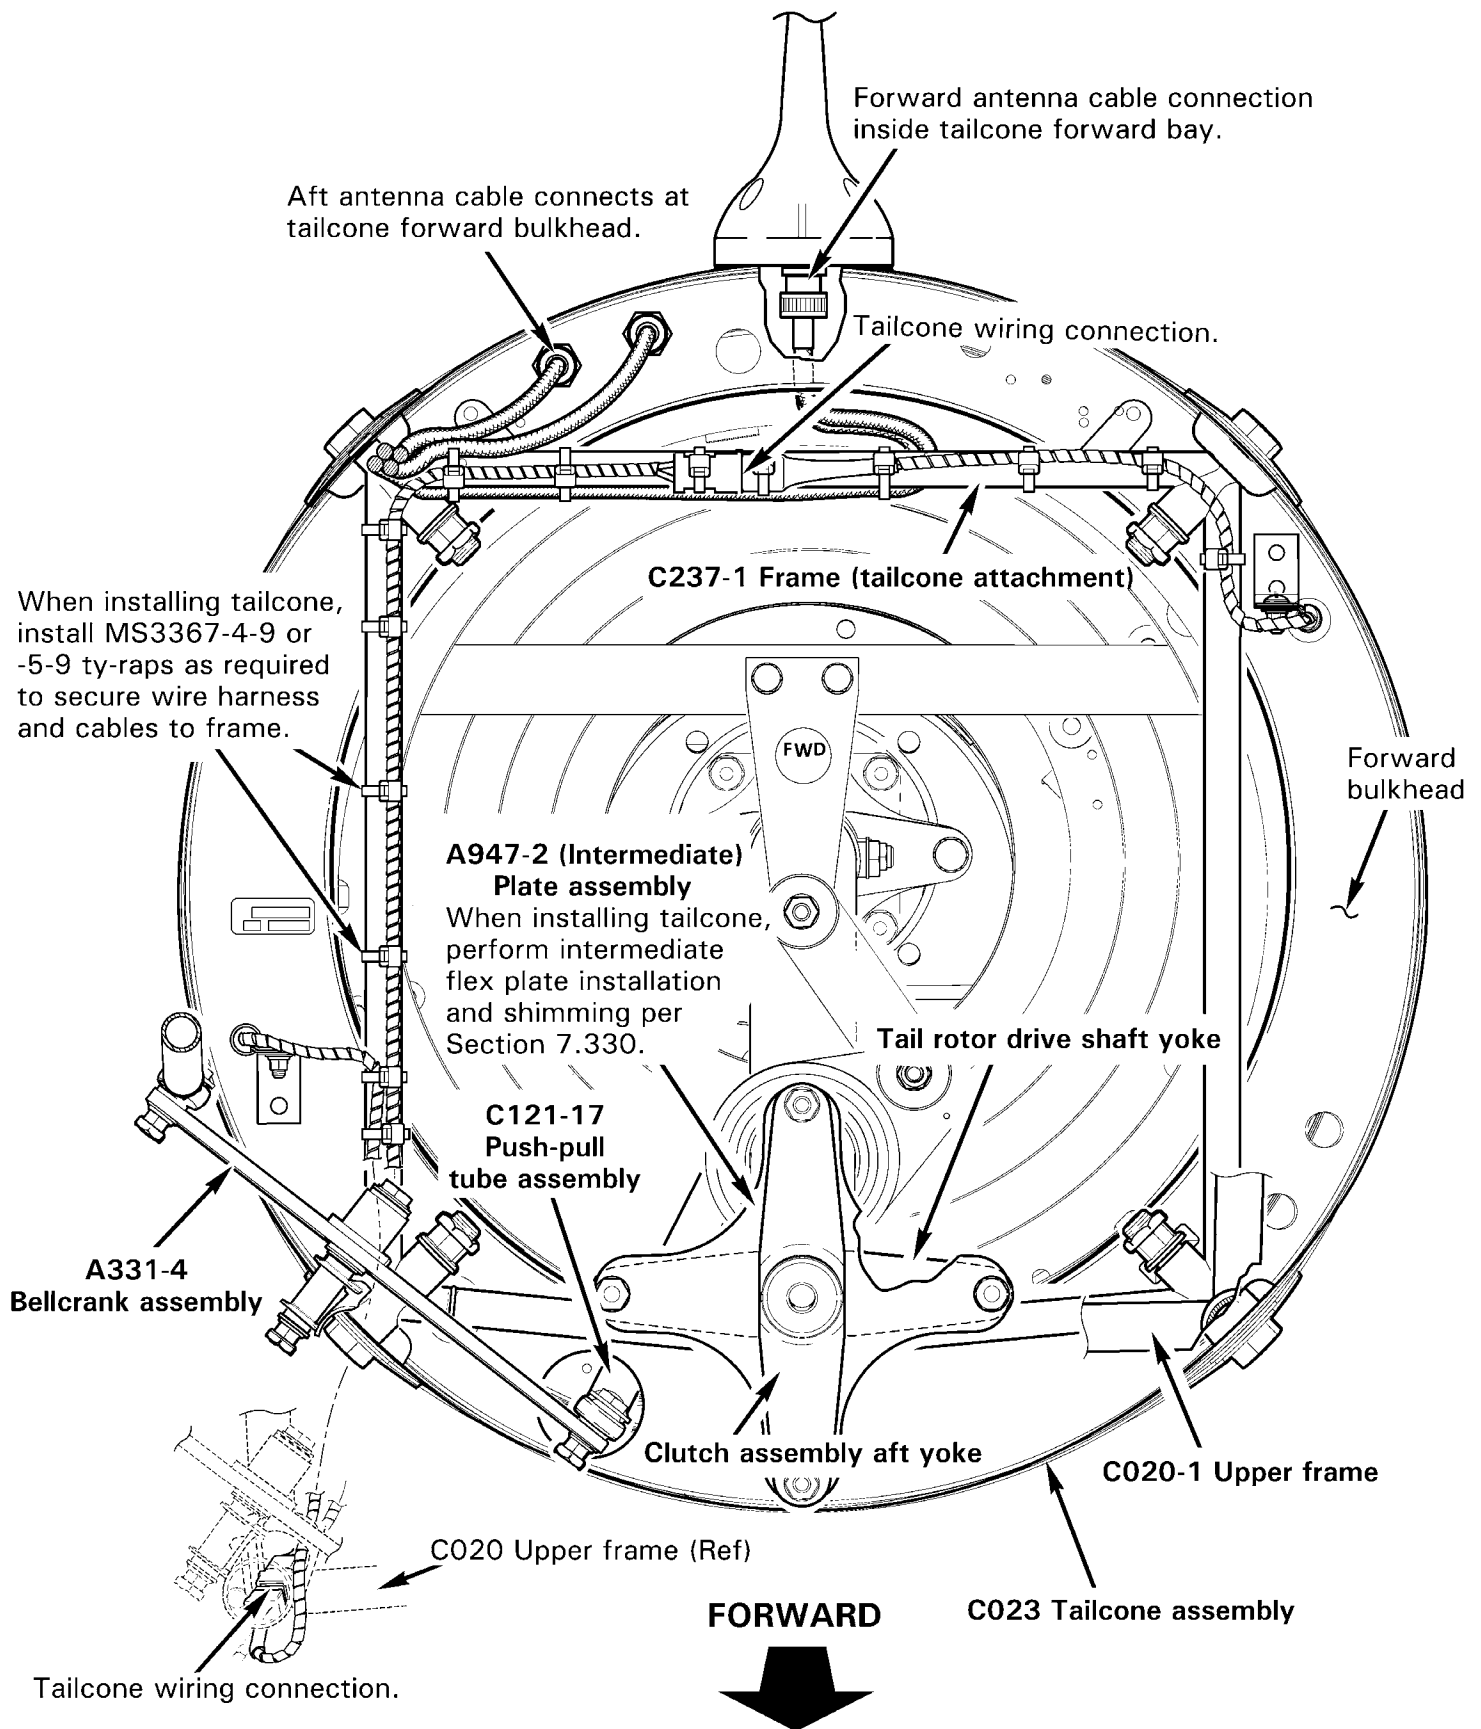

FIGURE 4-3 TAILCONE ASSEMBLY
3. Refer to Figure 4-3. Cut and discard ty-raps as required and disconnect tailcone wiring at connectors. Disconnect two antenna cables inside tailcone forward bay, and cables at forward bulkhead, as required.
1. Refer to Figure 4-3. Install C237-1 tailcone-attachment frame, if not previously accomplished. Verify correct damper assembly orientation per Figure 7-11B.